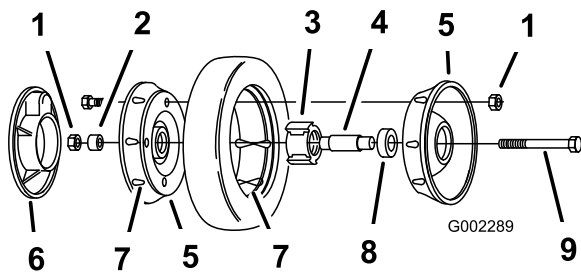

Figure 33
3. Remove the bolt, the wheel spacer, and the locknut mounting the wheel to the pivot arm (Figure 33).
- Separate the wheel halves from the tire by removing 4 bolts and 4 locknuts (Figure 33).
Note: If you remove the bearings from the bearing/hub assembly, remove them by pressing on the bearing spacer (Figure 33).
- Position the tire onto one wheel half, aligning the lugs on each (Figure 33).
- Place the bearing/hub assembly into the center hole of the wheel half. Ensure that the legs of the hub are positioned over the flange of the hole (Figure 33).
- Place the other wheel half onto the bearing/hub assembly, aligning the wheel and the tire lugs and the mounting holes (Figure 33).
- Using 2 fully threaded screws or bolts (1/4-20 x 1.50 inch) and non-locking nuts, loosely secure the wheel halves together. Mount the screws or bolts in the opposing holes (Figure 33).
- Check the alignment of all parts and tighten the bolts, alternating from side to side for a uniform fit, until the wheel halves are drawn together (Figure 33).
- Install the 2 bolts and 2 locknuts previously removed in the remaining holes in the wheel halves and tighten. Remove the 2 long screws or bolts and replace them with 2 bolts and 2 locknuts (Figure 33).
- Install the wheel to the pivot arm with the bolts, a spacer, and a locknut. Ensure that the spacer is positioned between the wheel hub and the pivot arm (Figure 33).